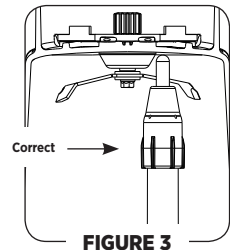
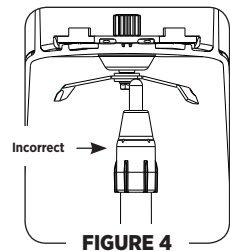

FIGURE 3
FIGURE 4
1. Place the item to be rinsed upside down over the top of the Rinse-o-matic until it rests on the plunger. For the best results when rinsing items with blades, ensure that the blades are not resting on the tip of the plunger before attempting to depress the plunger (Figure 4). The bottom internal surface of the item being rinsed should be in contact with the plunger (Figure 3). This ensures the best performance of the Rinse-o-matic.